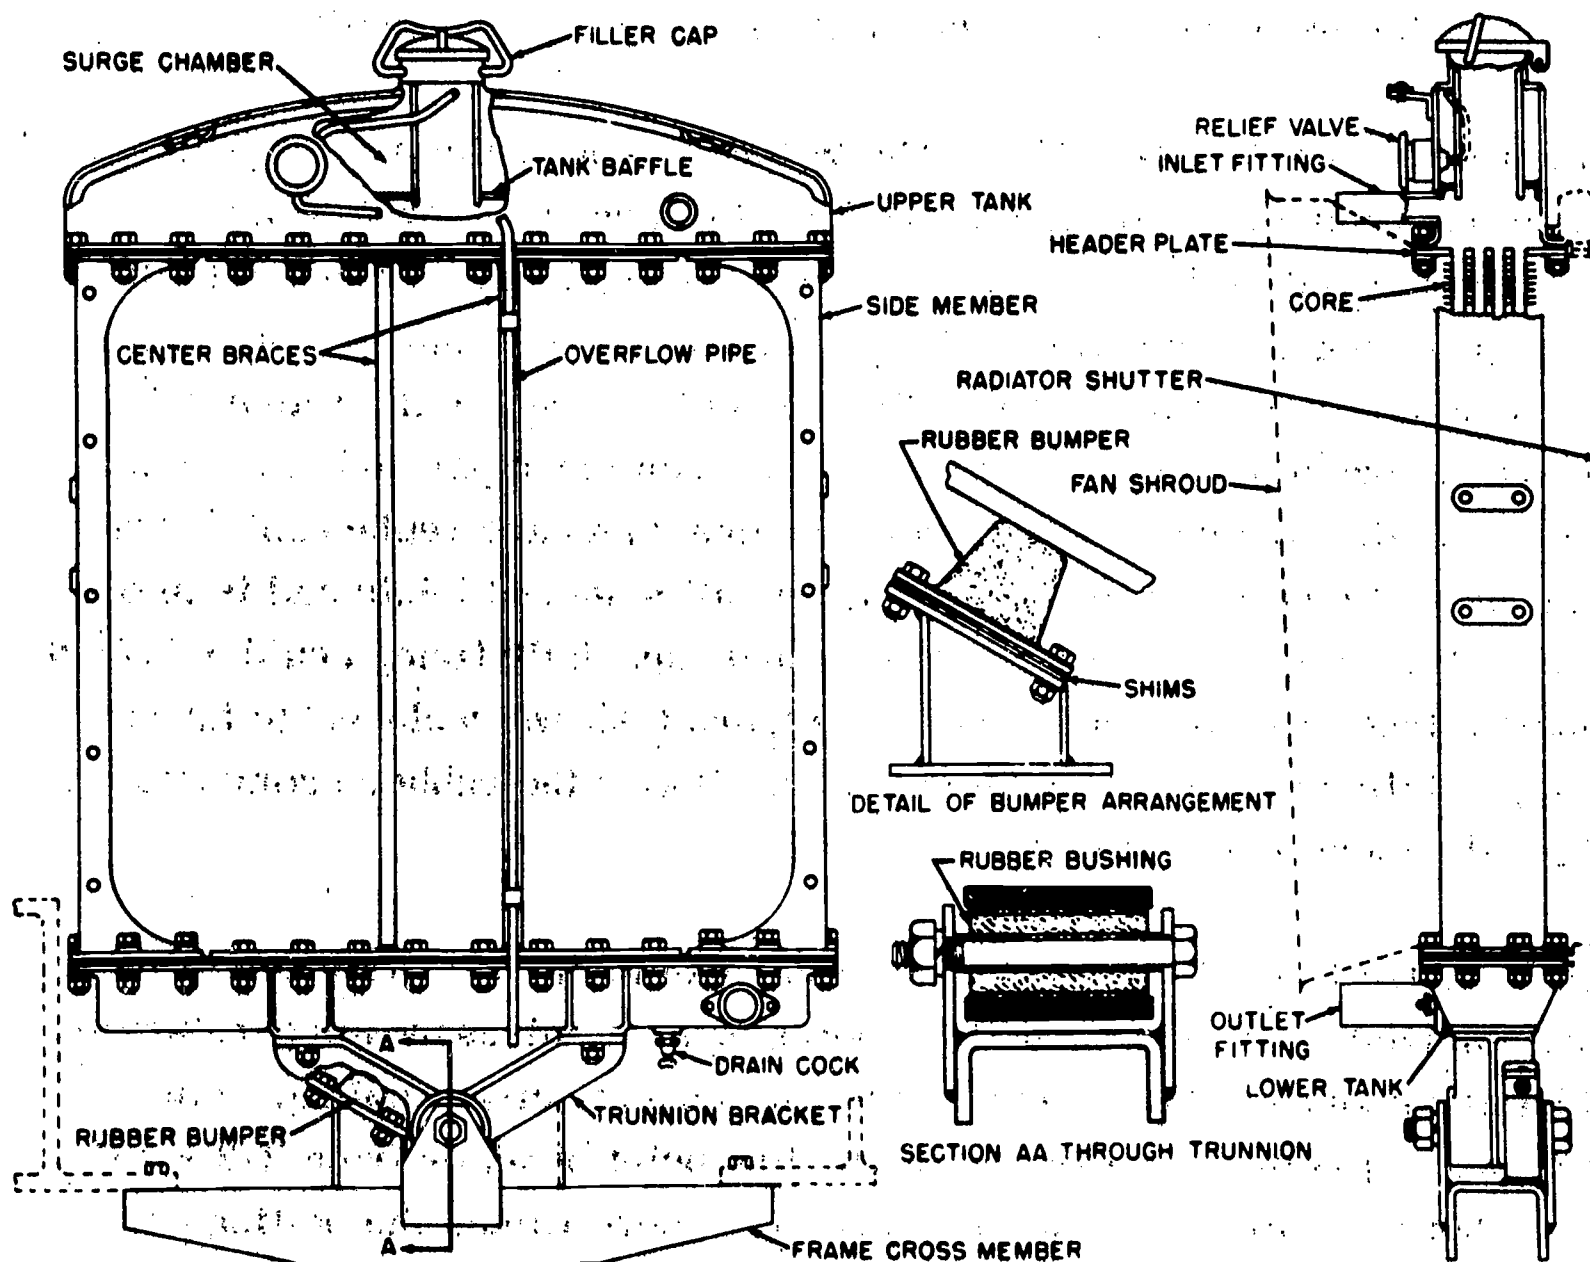
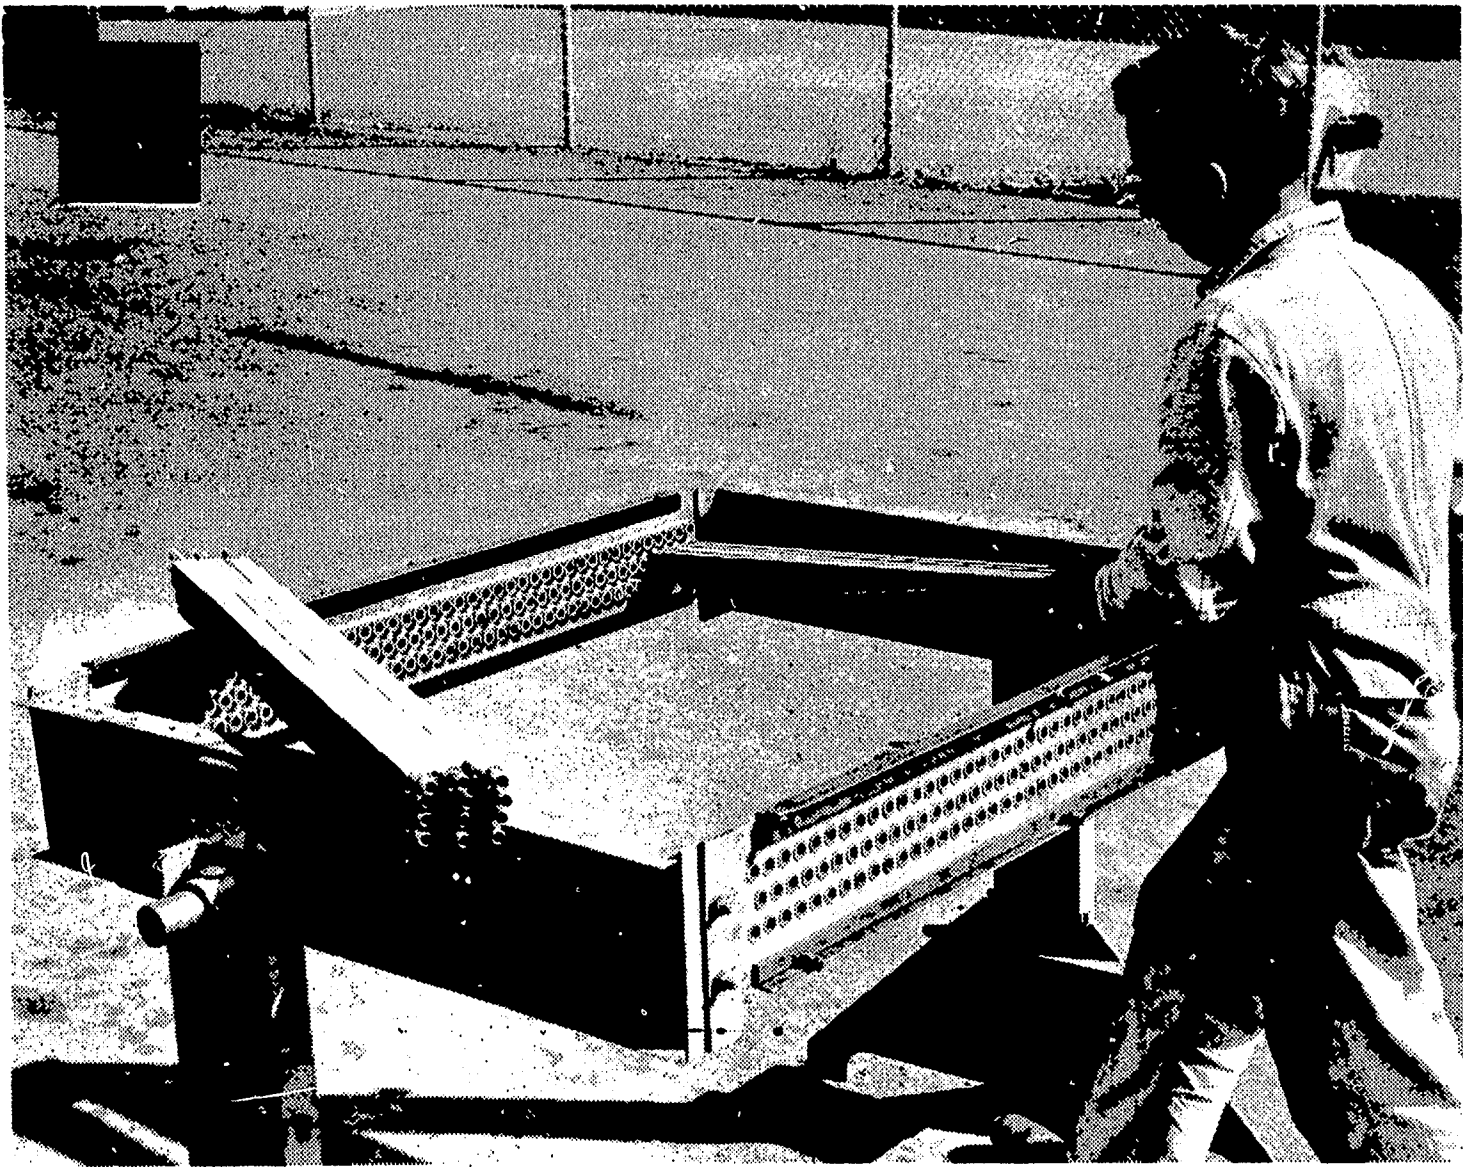

Fig. 5. Typical radiator for off-highway equipment.
Fig. 6 Installing new tubes in Withnell radiator.
mid-way in the neck. This overflow line provides for the escape of excess coolant if the radiator is overfilled, or if heat expands the coolant and releases the pressure relief valve in the filler cap; see Figure 5.
**WITHNELL TUBE RADIATOR** - The Withnell replaceable tube type radiator, which grew popular on the Mesabi Range and now is almost exclusively used in the Taconite Mining Industry, can be subjected to the heavy pounding and vibration which is common to off-highway equipment. The principle of operation of the Withnell is the same as the radiator in Figure 5, except that the tubes located between the upper and lower tanks of the radiator are seated in rubber grommets and are replaceable. The conventional type radiator, Figure 5, has all soldered joints and is in one piece. It is easy to see where money, and especially time, could be saved should a truck radiator be damaged. Figure 6 shows replaceable tubes being installed in the old radiator frame. Notice the rubber grommets which the tubes slide into.